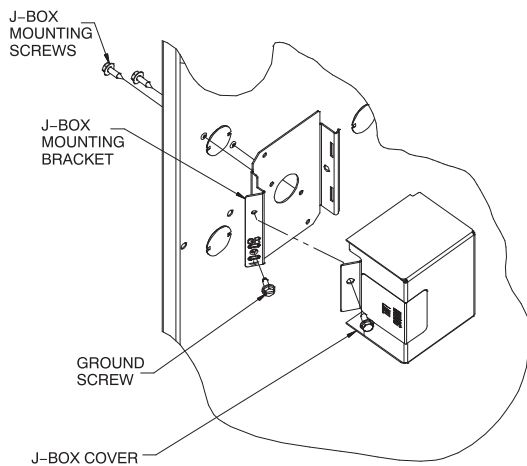

Fig. 31 - Installing J-Box (When Used)
The J-Box cover, mounting bracket and screws are shipped in the loose parts bag included with the furnace. The J-Box can be mounted on the left or right side of the casing, as viewed from the upflow position. See **Fig. 31**.
Align the J-Box mounting bracket against the inside of the casing and secure the mounting bracket with the screws. See **Fig. 31**.
6. Connect field ground wire and factory ground wire to green ground screw on J-Box mounting bracket as shown in **Fig. 31**.
1. Install J-Box mounting bracket to inside of furnace casing. See **Fig. 31**.
5. Connect field ground wire and factory ground wire to green ground screw on J-Box mounting bracket as shown in **Fig. 31**.
7. Attach furnace J-Box cover to mounting bracket with screws supplied in loose parts bag. Do not pinch wires between cover and bracket. See **Fig. 31**.
4. Connect field ground wire and factory ground wire to green ground screw on J-Box mounting bracket as shown in **Fig. 31**.